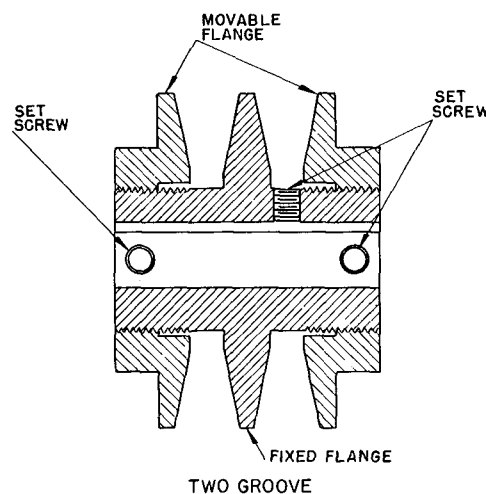

FIG. 9 - VARIABLE PITCH PULLEY
2. Loosen the setscrews in both of the movable flanges of the pulley (Fig. 9). Screw the movable flanges an equal amount toward the center fixed flange to increase fan speed, and away from the fixed flange to reduce fan speed. Before tightening the setscrews, make certain